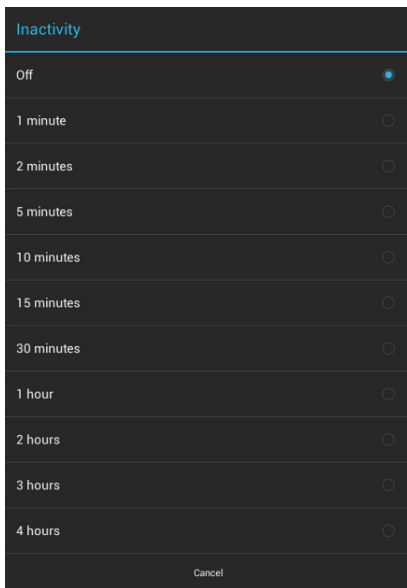

**FIG. 31** Remote URL window
2. Press **Remote URL** to enter the URL of the remote profile to use via the on-screen keyboard (FIG. 31)